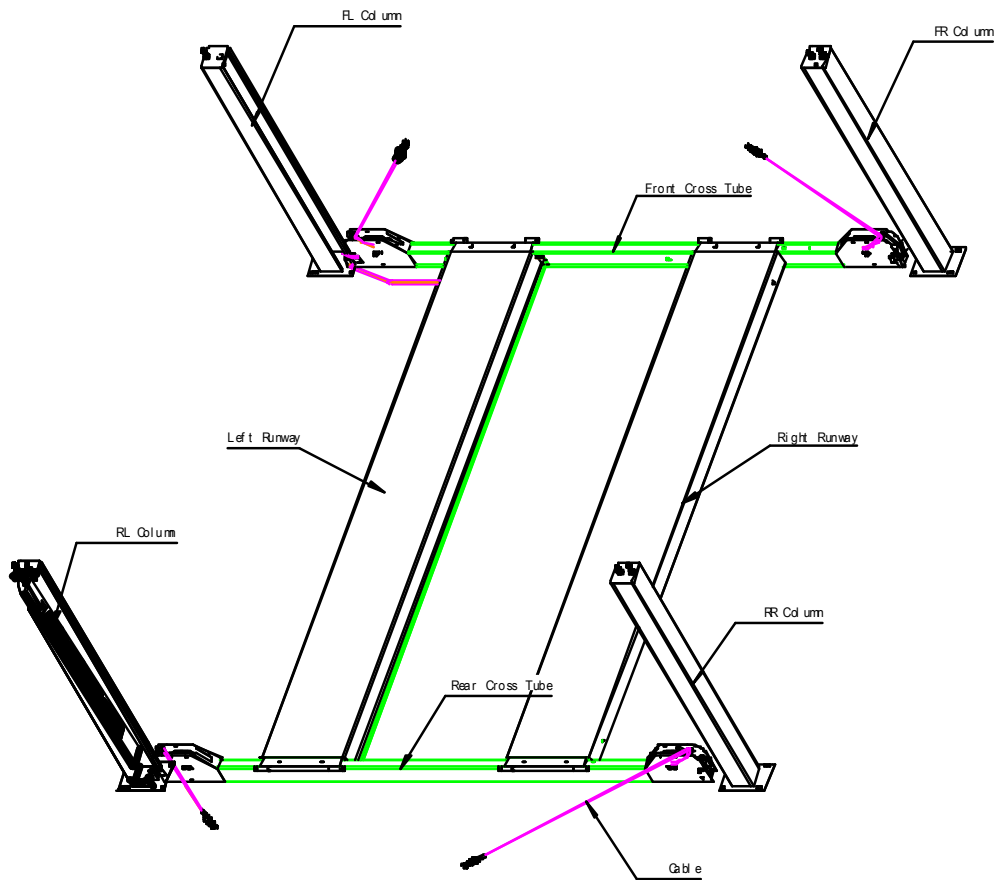

Fig.9
- Place the power unit column at the FL (front left) corner of the lift. The hydraulic cylinder connection in the left runway should be visible from this corner. Position other three columns.(Fig.9)